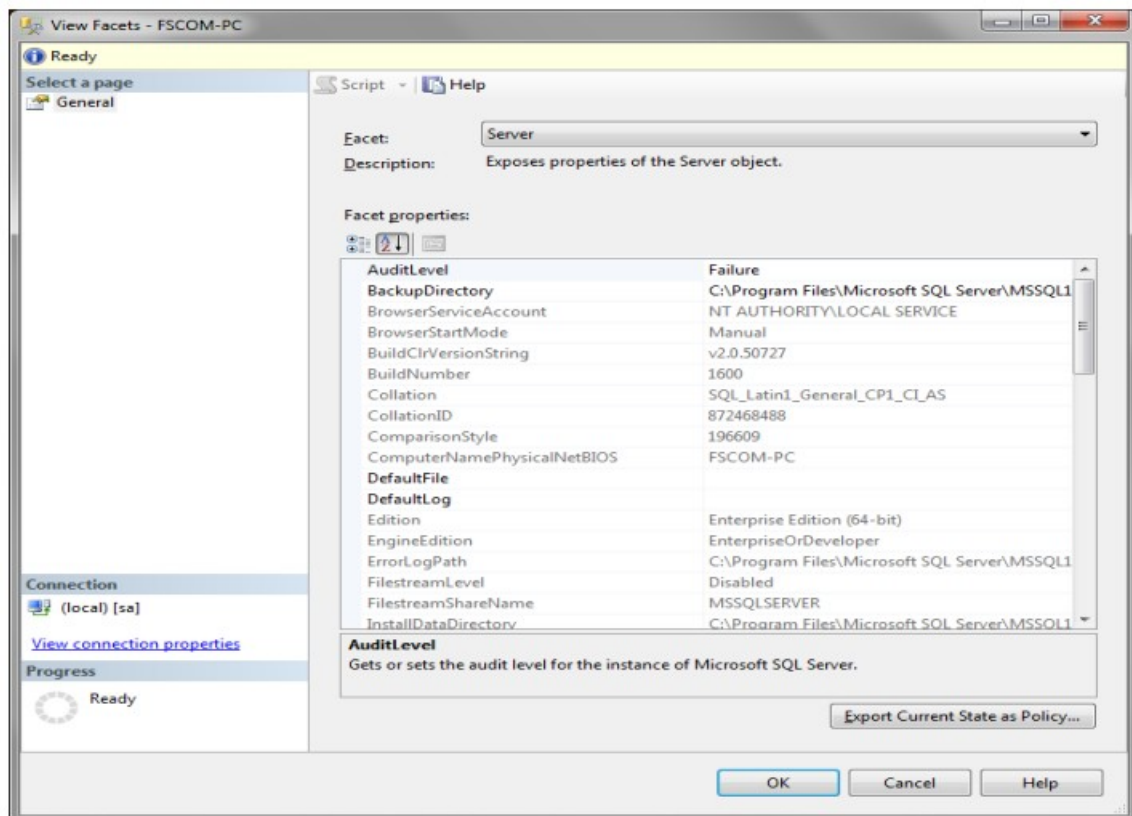

Fig.1.8 View Facets
**Step Eight:** Choose “Server Configuration” from the drop-down box of “Facets” and set the properties of “Remote Access Enabled” as “true”, then click “OK” button (see Fig.1.8).